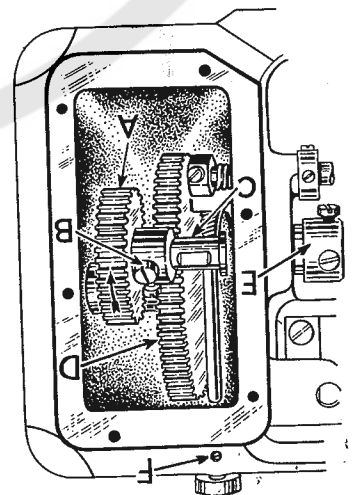
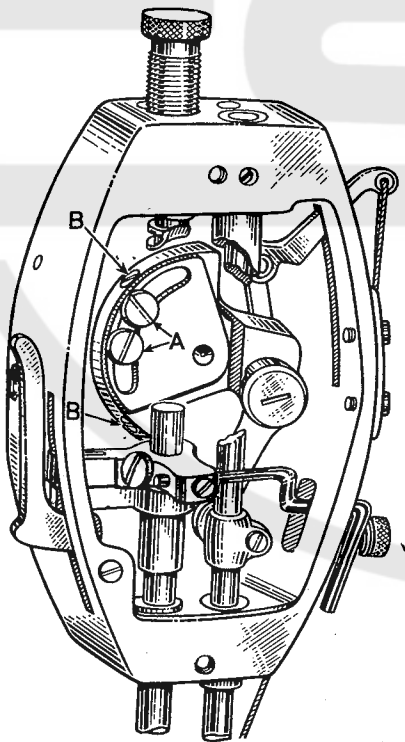

Fig. 19
Fig. 20
3. Loosen screws (B, Fig. 19) and slide gear (A) to the extreme right so it is out of mesh with the idler gear (D).
4. Looking through the stitch length indicator window on the top of the bed plate, rotate the lower main shaft (C) in the operating direction until the timing mark "T" appears between the pointers of the indicator window. Then, rotate upper main shaft in the operating direction until the needle bar reaches its highest position and has descended 1/32 inch. Carefully turn gear (A) without disturbing the lower main shaft setting until the set screw lies directly above the flat in the lower main shaft. The gears should then be engaged as closely as possible in this position. While holding the gear and thrust collar (E) tightly between thumb and forefinger, tighten set screw against flat in shaft securely. Then, tighten the second set screw and check to see that there is no end play in the shaft, and that the machine revolves freely.
- If, after making the above adjustments, the needle bar is not in its desired position when the timing mark is in the window, further adjustment may be made by using the slotted segment located on the counterweight in the head of the machine (Fig. 20). Loosen the two screws (B) holding the counterweight to the shaft, and also loosen the two screws (A) holding the segment to the counterweight.